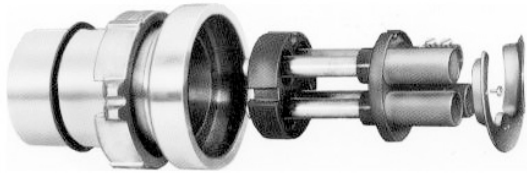

Figure 2. Insulator / Contact Assembly
3. Remove two 1/4-20 hex head retaining screws that secure the retaining cup and insulator/contact assembly in the plug sleeve. Remove insulator/contact assembly. See Figure 2.